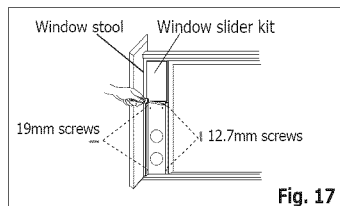

Fig. 17
3. Close the sliding sash securely against the window slider kit. (Fig. 17)
4. Drive two 12.7mm screws to secure the window slider kit to the window sash. (Fig. 17)
5. Drive two 19mm screws to secure the window slider kit to the window stool. (Fig. 17)